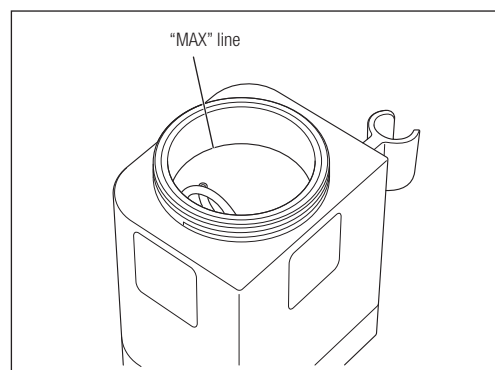

Fig. 23
- 1) Select the Chamber and powder to be used with this Mode. Fill the Chamber with powder up to the “MAX” line (approximately 80g of FLASH pearl or approximately 50g of Perio-Mate powder) (Fig. 23).